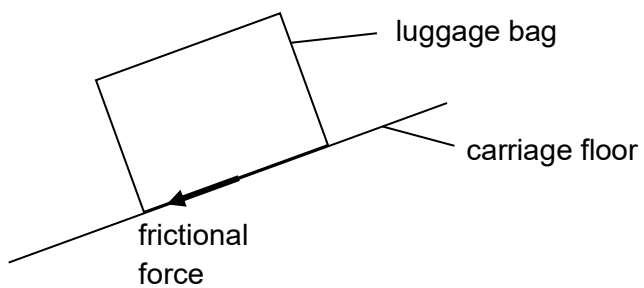

Fig. 8.3
- (iii) A luggage bag of mass 19.6 kg sits on the train carriage when it is turning at 150 km h^{-1} . Fig. 8.3 shows the frictional force between the luggage bag and the carriage floor.
1. On Fig. 8.3, draw and label arrows to show the other forces acting on the luggage bag.